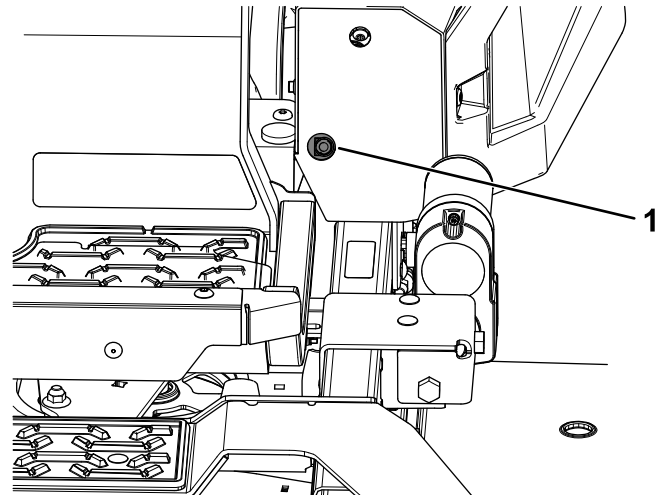
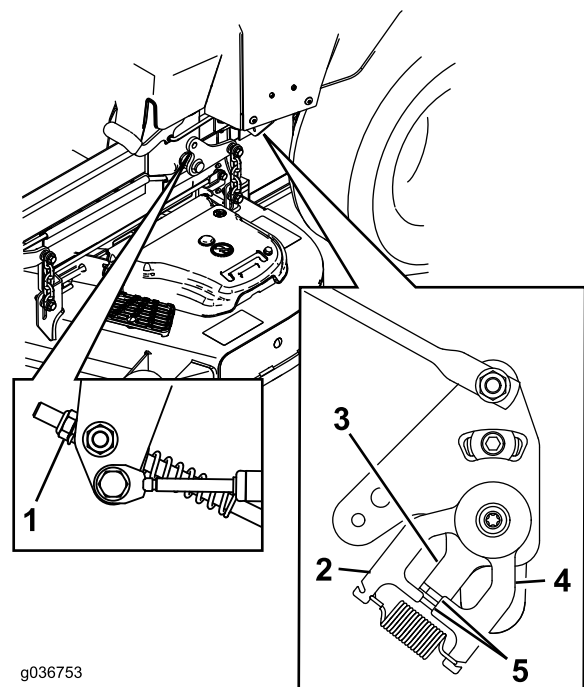

Figure 82
Figure 83
11. Adjust the pump-control-rod lengths by rotating the nut in the appropriate direction until the wheels slightly creep in reverse (Figure 82 and Figure 83).